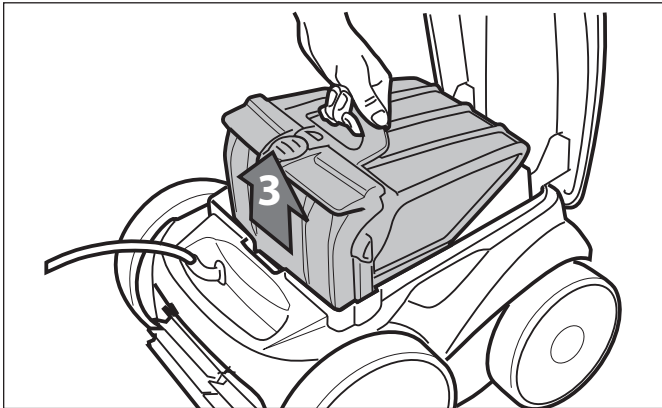

Figure 24. Remove Filter Assembly
- Remove the filter assembly from the body (3), as shown in Figure 24.